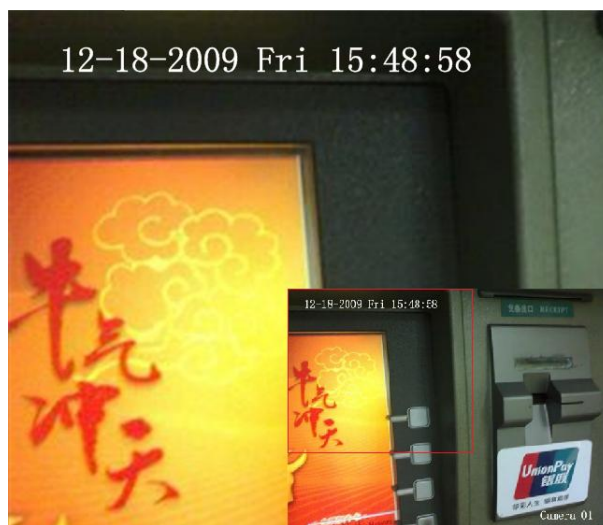

Figure 3. Digital Zoom
3. Left-click and drag the red box to the desired area for zoom. The zoomed image will be magnified by 4x. A sample of this can be seen in Figure 3.